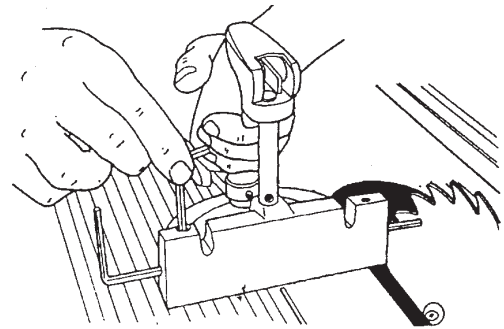

Figure C-41
41. Insert the long 5/32" Allen wrench through the miter gauge. Borrow a set screw from the lathe tool rest and use the short 5/32" Allen wrench to install it in either top miter gauge hole, as seen in Figure C-41. Place the tip of the long wrench against the front side of the saw blade and tighten the set screw.